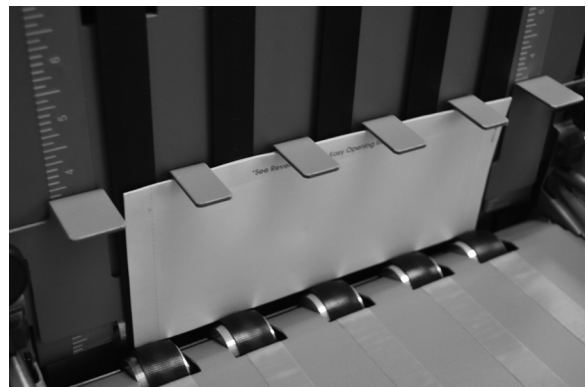

Fig 3
3. Lower the paper stop down so that it is resting on the top edge of the folded piece, then tighten the black knobs to hold the paper stop in position. For quicker setup in the future note the position of the backstop on the ruler guides. (Fig 3)